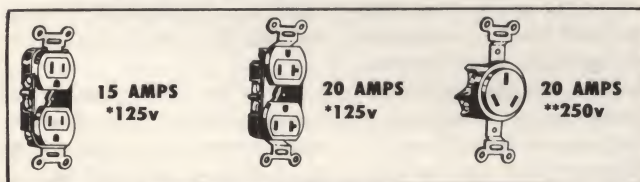

FIG. 95—TYPICAL GROUNDING OUTLETS
barn has two entrances, 3-way switches are desirable (Page 19) to control at least one light from either end of the barn. Be sure to allow for 3-wire 230 volt circuits to take care of heavy-duty equipment. On the outside of building, provide at least one grounded weatherproof plug-in outlet (see Fig. 95) to facilitate the use of motors and other equipment for outside use.
**GROUNDING OUTLETS.** Fig. 95 shows three styles of Wards 3-wire grounded outlets which help prevent dangerous shocks from appliances and motors due to faulty wiring or worn insulation. Note that outlets which have two current carrying slots and one ground slot vary in slot arrangement; this assures that the wires will always be correctly aligned. Be sure the grounded outlet matches appliance rating and plug blades.
outdoor lighting be not less than 115 volt, 20-ampere capacity. If outdoor electric cooking is anticipated, it may be necessary to install a 230 volt circuit, depending upon the type of equipment to be used. All outlets should be of the grounded type, as shown in Fig. 95, Page 31.